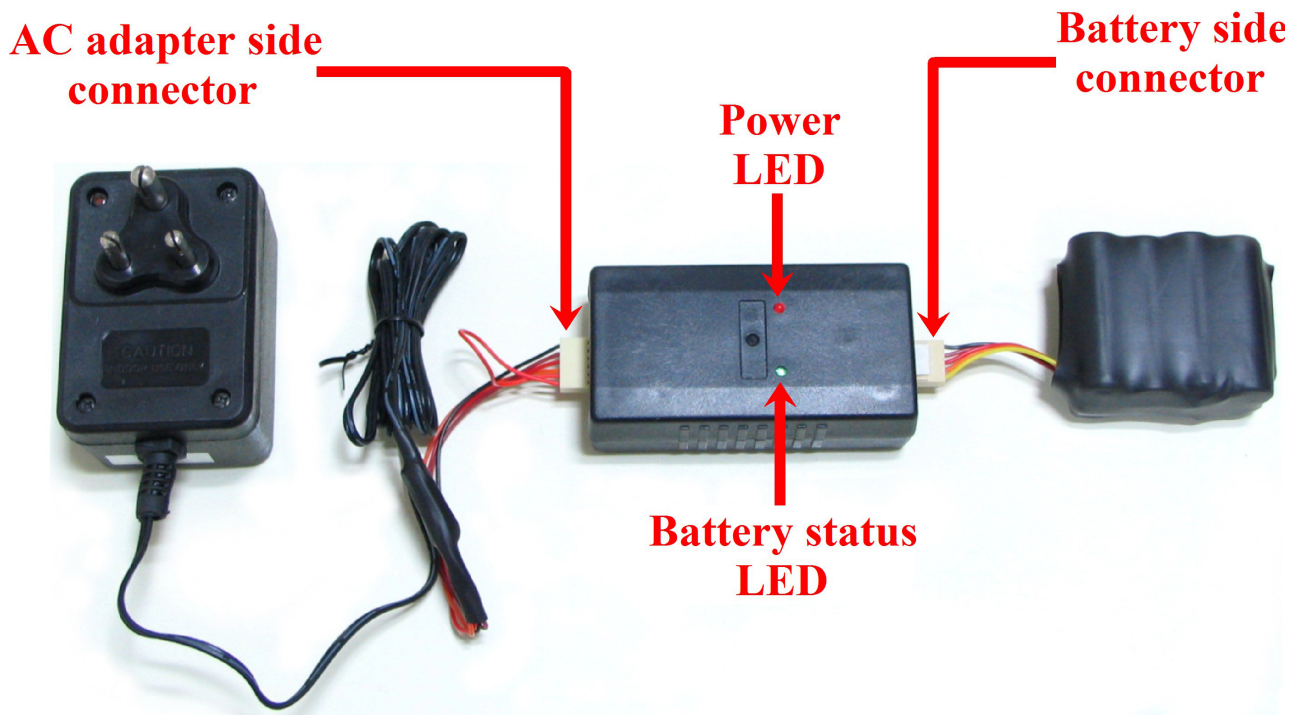

Figure 1: Experimental Set up for battery charging
- Remove the battery from the robot and insert the battery in battery connector and Fire Bird V's charger adaptor in the power connector. These are 5pin and 6pin connectors so that there is no risk of interchanging of the connectors. Figure 1 shows the connections.